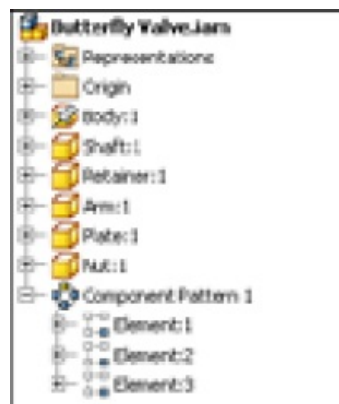

Figure 10-30 Display of the **Browser Bar** for Tutorial 1
8. Turn on the visibility of the Arm using the **Browser Bar**. Next, choose the **Save** tool from the **Quick Access Toolbar** to save the changes made in the assembly. The display of the **Browser Bar**, after making all changes in the assembly, is shown in Figure 10-30.